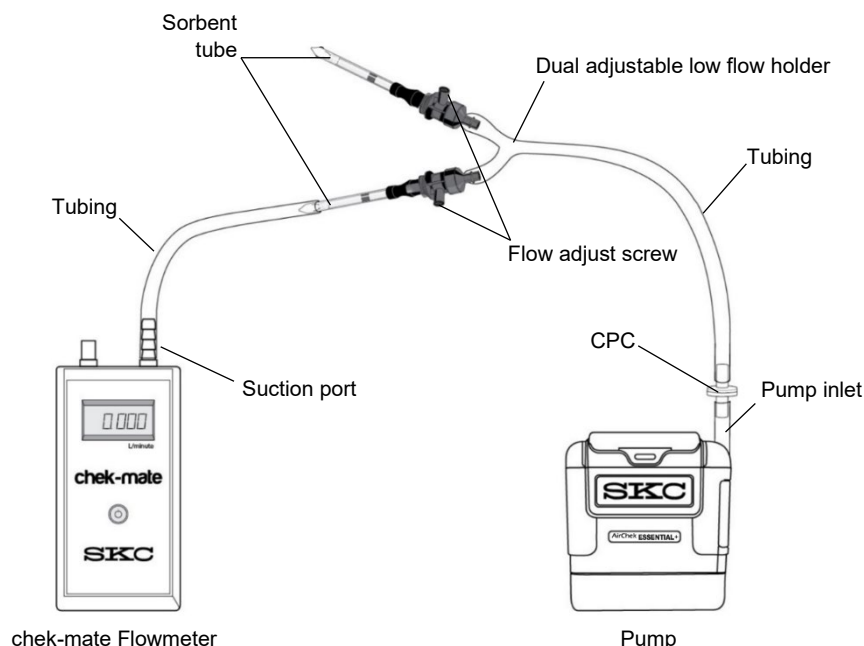

Figure 5. Flow Rate Verification Train (5 to 500 ml/min) for Multiple Tubes
- Multiple-tube sampling can be done using a Constant Pressure Controller (CPC) (Figure 5) and a Dual, Tri, or Quad Adjustable Low Flow Tube Holder accessory. See CPC and Adjustable Low Flow Tube Holder operating instructions for details on operation.
1. On the tube holder, insert an opened representative sorbent tube (arrow on tube pointing toward the pump) into the rubber sleeve on the port. Repeat for the desired number of tube samples. *See Figure 5. Note: Place an unopened (inactive) tube in any unused port to "seal" it.*
Verify Flow Rate with Dual, Tri, or Quad Adjustable Low Flow Tube Holder (see Figure 5)